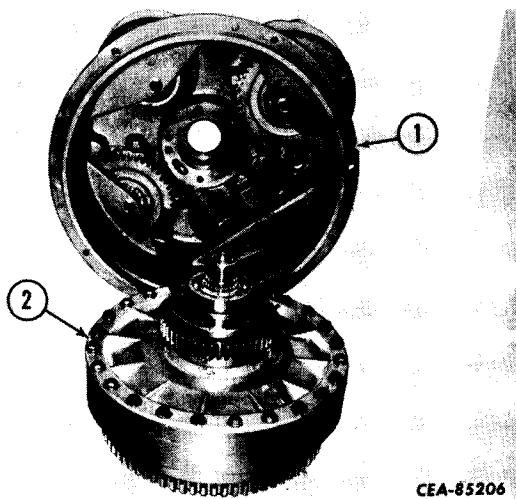

Figure 3-43
Carefully lower the converter housing assembly (1, Fig. 3-43) over the converter assembly (2). Be careful not to damage the output yoke oil seal in the housing. Align the cap screw holes in the guide wheel carrier with the holes in the converter housing.